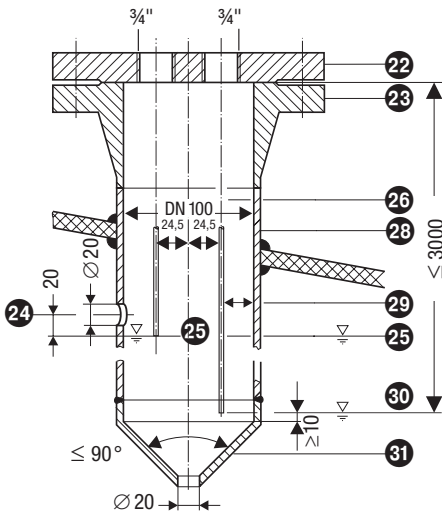

Fig. 18 Protection tube (provided on site) if electrode is used as internal water level-limiter combined with water level control or high water level alarm
- **One** level electrode NRG 1...-50 can be installed together with one GESTRA level electrode, one level switch or transmitter for water level control and high level alarm in one single protection tube or level pot (inside diameter 100 mm). **Fig. 18**. If the electrode NRG 1...-50 is installed inside the vessel, it must be at least 100 mm away from the upper vent hole.